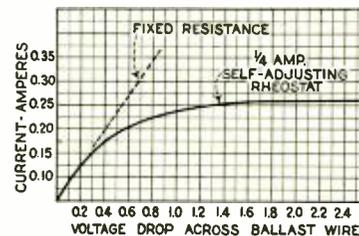

Fig. 2. Voltage-current curves of a fixed resistance and a ballasting wire resistance.
- FIG. 2 -
It will be seen that if we refer to the zero to fifty watt range the number of turns are only changed by some nine to twelve percent by the different correction factors. Referring again to Fig. 2, the correct number of turns are found by laying a straightedge from the proper watts on the watt staff, through the proper line voltage on the line voltage staff and the intersection with the turns staff will give the correct number of primary turns.
First we will describe what a ballast wire does and then how it works. Suppose we connected one in series with a battery rheostat and ammeter, and connect a voltmeter across the ballast wire. Now, let us increase the voltage across the ballast wire from 0 to about 2.5 volts (Fig. 2). At first the ballast wire acts like a fixed resistance. But after the current reaches about .2 amperes, the resistance increases rapidly as shown by the required voltage. At
Let us now go back to the experiment as shown in Fig. 2 and see how the ballast actually works. As the current increases, the filament heats up and increases in resistance. This in turn heats the surrounding gas, which causes a decrease in its conductivity. Now a further increase in current causes the wire to heat up more, increasing its temperature still further. The surrounding gas is now a poorer conductor. Less heat is taken